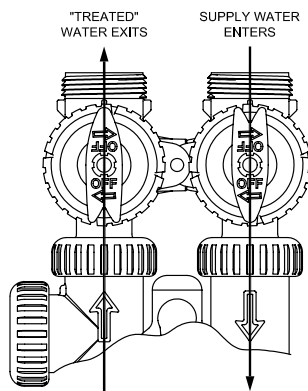

Figure 2
7. Once again, push REGEN button and hold down for 3 seconds. Keep pushing REGEN button until "Backwash" appears. Slowly place the by-pass valve into the "Diagnostic Mode" 1/2 way. Allow water to slowly fill the mineral tank. When a solid stream of water starts coming out of the drain line, open the by-pass inlet valve all the way and allow to run out the drain until water clears. Then slowly place the by-pass into the "normal operation" mode by opening the outlet side of by-pass valve, figure 2, page 5.